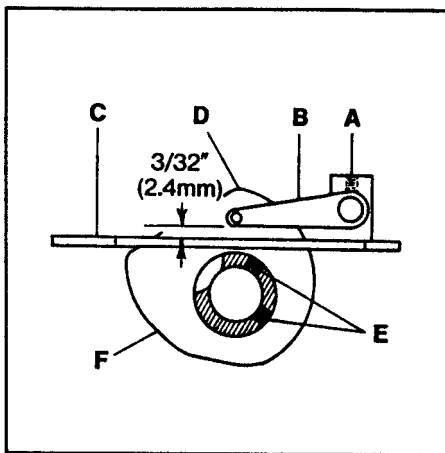

FIG. 35
Loosen screw (A, Fig. 35) and set the lower edge of cover thread take-up eyelet (B) so its $3/32$ " (2.4mm) above the surface of cast-off plate (C). Tighten screw (A). As the cover thread hook moves to the left over the cover thread and the needle bar starts to rise, the cover thread must "cast-off" from the high point of take-up (D). Loosen screws (E) and adjust take-up (F) accordingly. Make sure that take-up (F) is centered in cast-off plate slot (C) and take-up eyelet (B) is centered to take-up (F). Tighten screws (E).